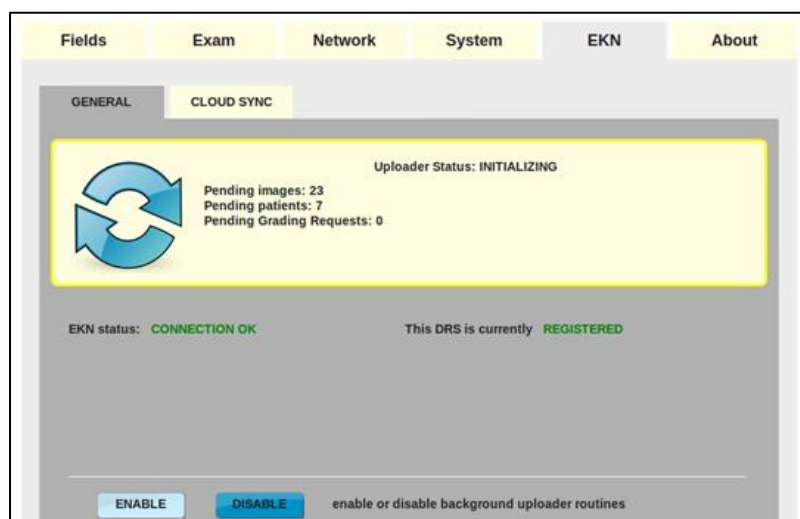

Figure 76 - EKN tab in Settings
- make sure the DRS is connected to the internet. After maximum half an hour the DRS status as displayed in Settings >> EKN >> GENERAL should read "REGISTERED" (see Figure 76) and any existing patients and exams will start being uploaded on the EKN.
When the DRS is enabled for data transmission to EKN, the Settings >> EKN >> GENERAL tab provides status information on the upload process (see Figure 76). Furthermore, a new icon appears on the top bar of the home screen, besides the settings icon.